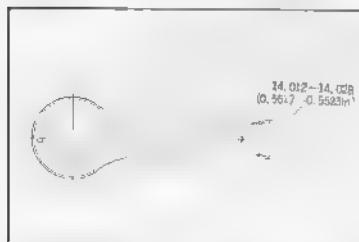

Fig. 3.84 Connecting rod.
3. Connecting rod small end bore. (Fig. 3.84)